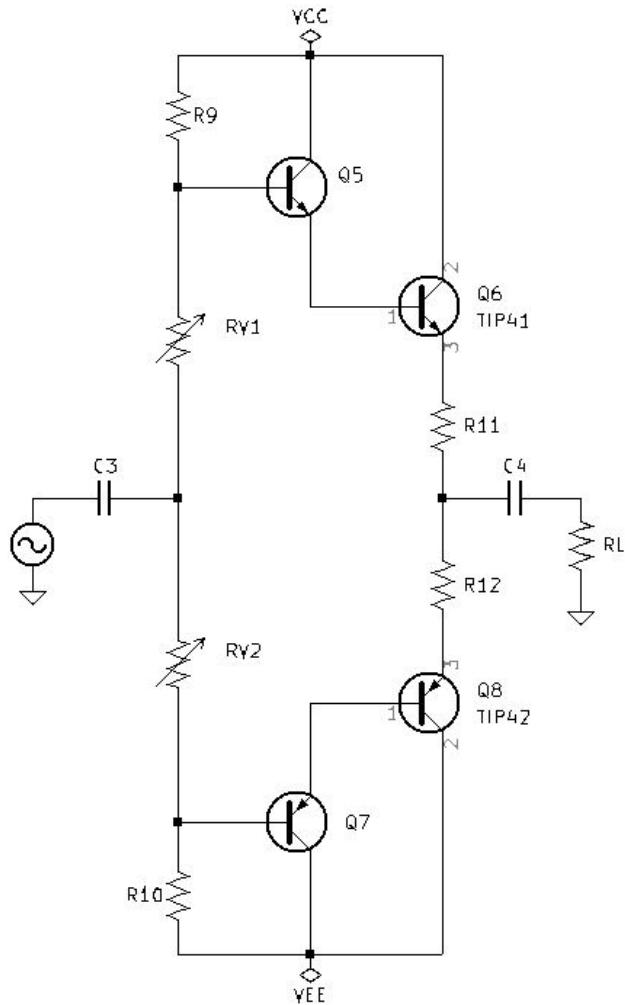

Figure 5.3: Push Pull Amplifier Calibration Circuit.
5. See Figure 5.3 *Push Pull Amplifier Calibration Circuit* on page 55.